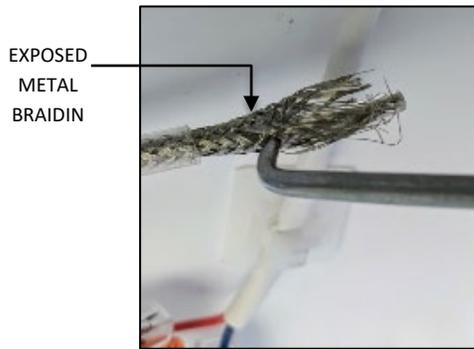
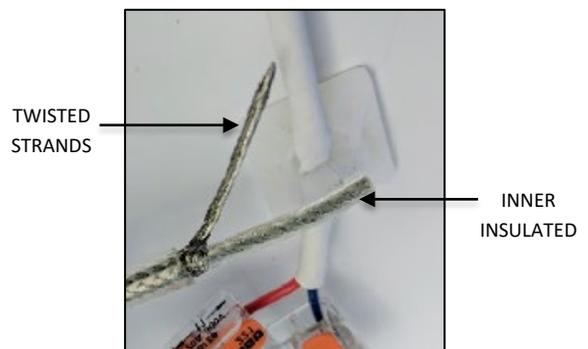

FIG. 40
FIG. 41
- Using a small pointed object, begin unweaving the exposed metal braiding as shown in FIG. 40 below. Position the unweoven metal strands on one side of the inner insulated wire and twist the individual strands together as shown in FIG. 41 below.